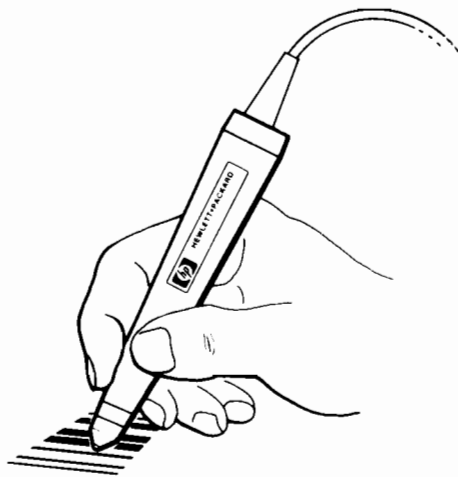
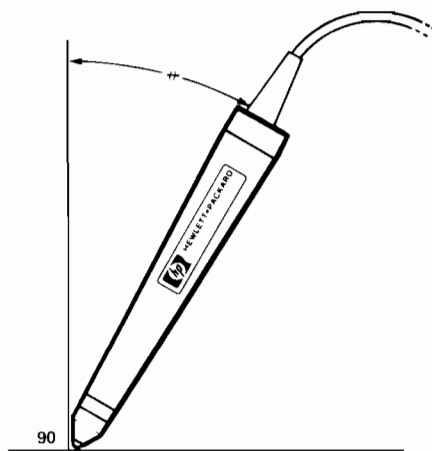

Figure 1. Wand Positioning
Figure 2. Wand Tilt
2. Hold the Smart Wand in a comfortable position, much as you would hold a pencil. (see Figure 1.) The Smart Wand works best when tilted from 10 to 30 degrees from the vertical, although any angle from 0 to 45 degrees will work. (see Figure 2.)